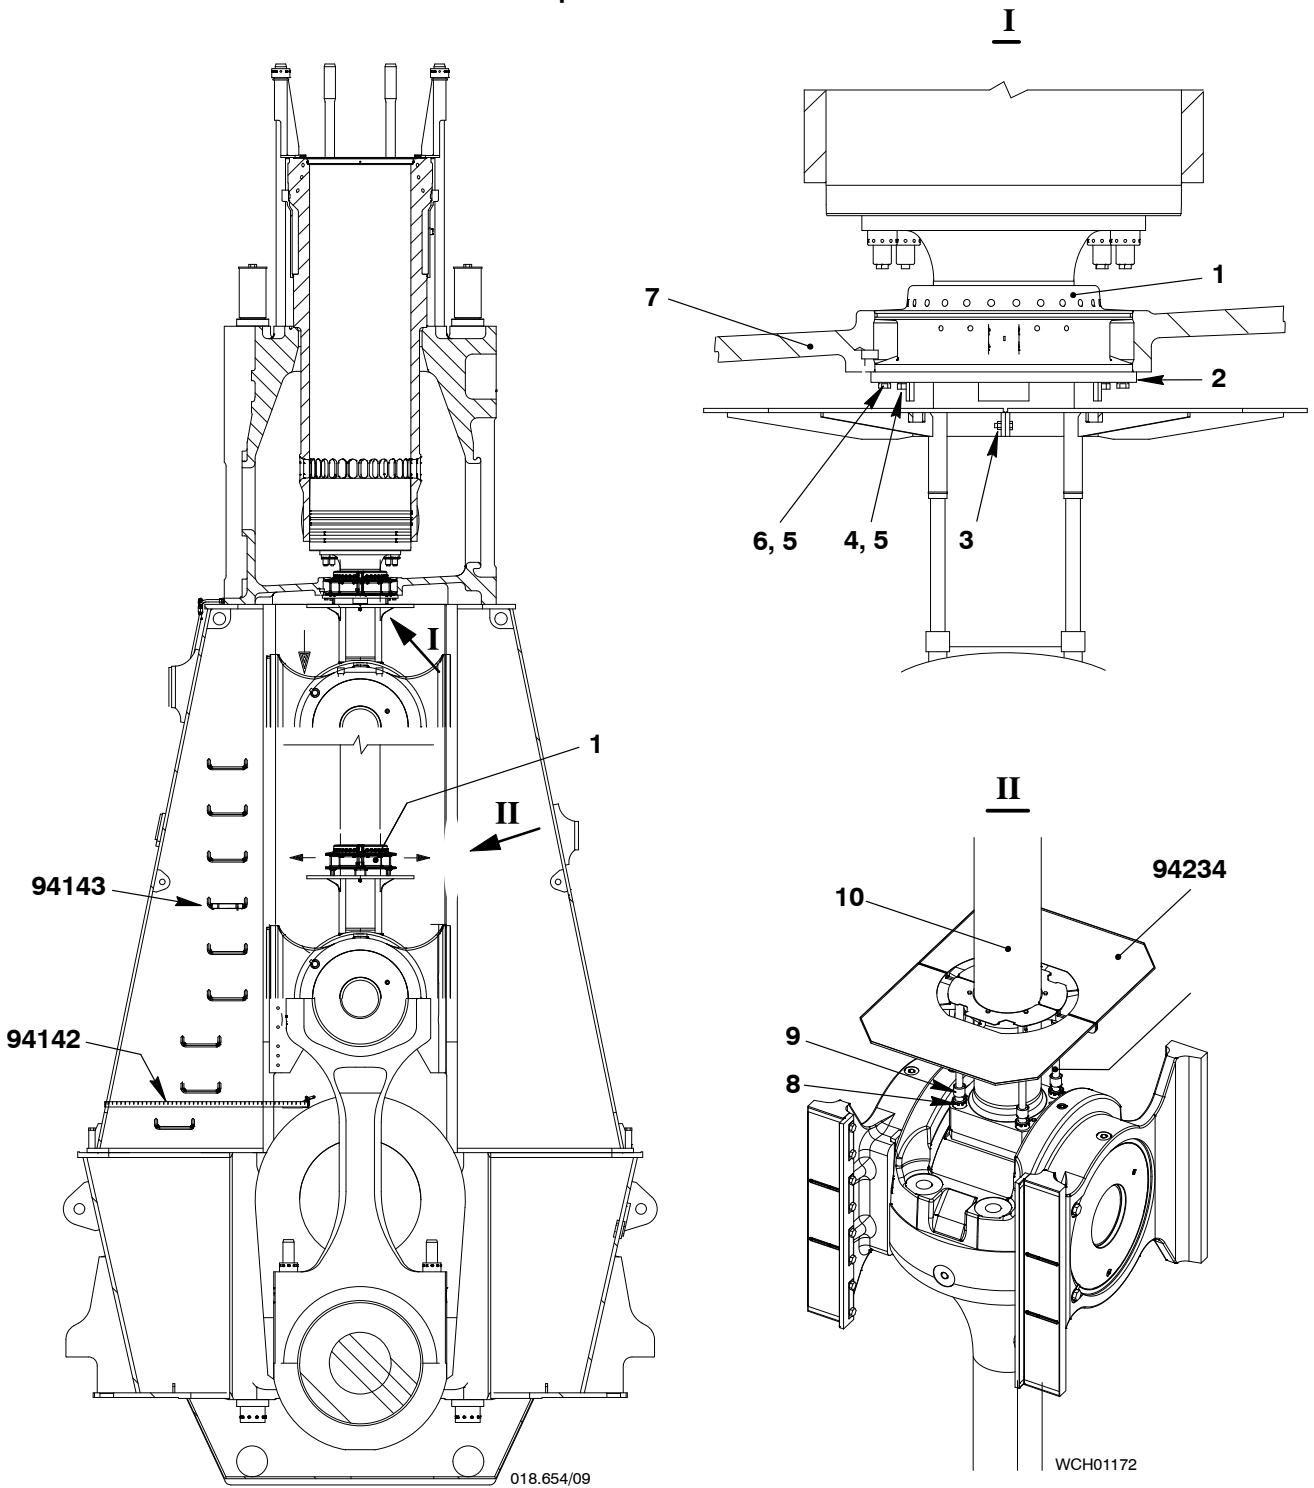

Fig. 9
- 2) Attach the platform (94234, Fig. 9) with the elastic studs (2) to the piston rod (10).
- 1) Make sure that the piston rod gland (1, Fig. 9) and the spring dowel pin are in the correct position.
- 2) Apply oil to the inner bolts (4).
- 3) Put the new locking plates (5) and the inner bolts (4) in position.
- 4) Torque the inner bolts (4) to 150 Nm.
- 5) Bend the locking plates (5) to lock the inner bolts (4).
- 7) Operate the turning gear to carefully move the piston to TDC until the piston rod gland is in the correct position in the cylinder jacket (3).
- 8) Apply oil to the outer bolts (6, Fig. 9).
- 9) Put new locking plates (5) and the outer bolts (6) in position.
- 10) Torque the outer bolts (6) to 150 Nm.
- 11) Bend the locking plates (5) to lock the outer bolts (6).